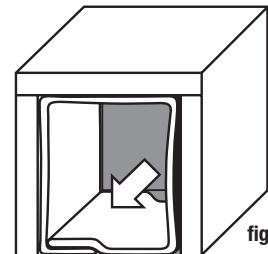

fig. 6
4. Install the Thinsulate™ Acoustic Insulation (fig. 6)